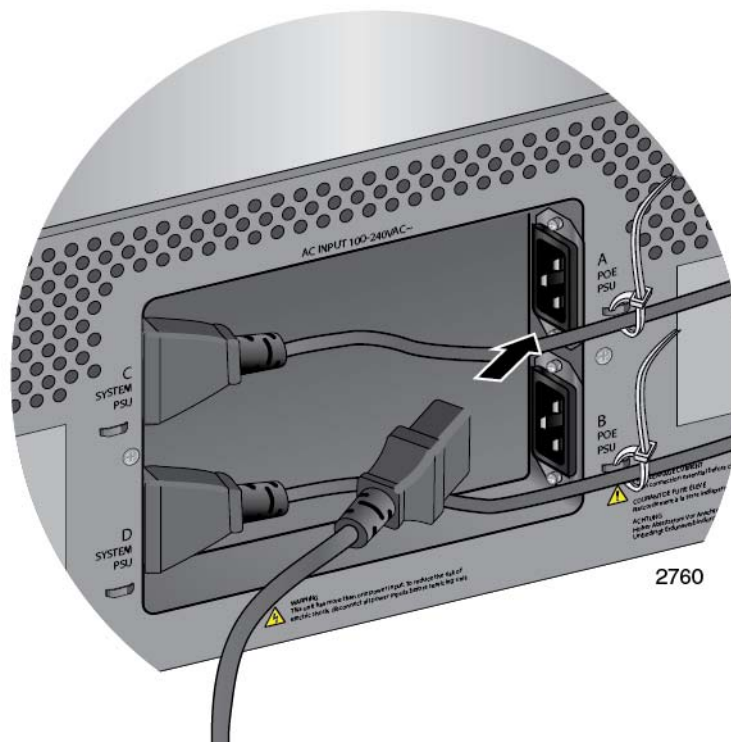

Figure 110. Connecting the AC Power Cord for the AT-SBxPWRPOE1 Power Supply
2. Plug the AC power cord that comes with the power supply into one of the plugs, as shown in Figure 110.